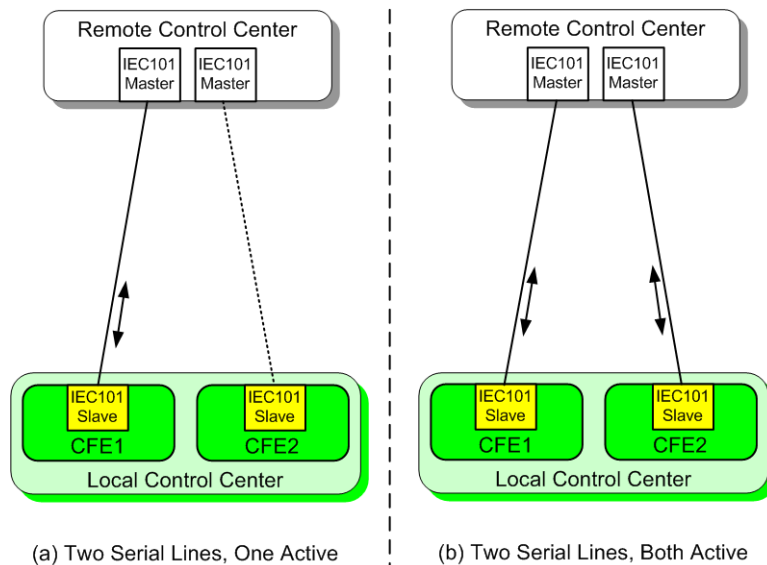

Figure 3-3.8: Master/Slave Configurations, Redundant CFE, Independent Serial Links
1. The first two figures show serial independent connections between redundant CFE and redundant Master interface (Figure 3-3.8).